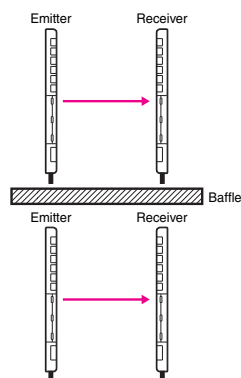
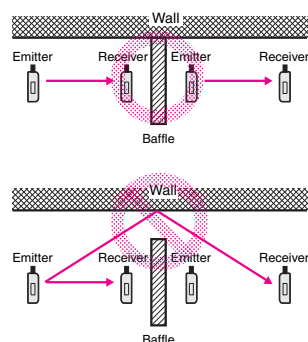

Figure 1
Figure 2
- Install a baffle so that there will not be mutual interference between Sensors with the same frequency setting. (See Figure 1.) A light reflection from the wall or floor may go around a baffle and reach the Receivers. Install a baffle so that it will also block any light reflection. (See Figure 2.)